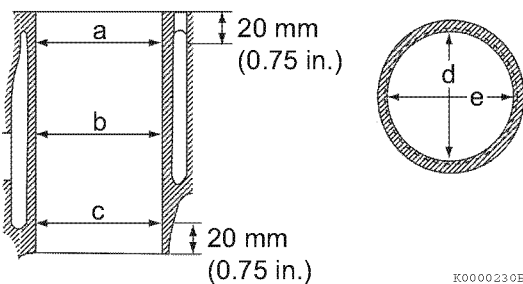

Figure 6-64
- Take measurements at three places (**Figure 6-64**) (a, b, c), and in two directions (d and e) in each cylinder.